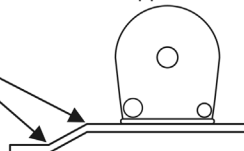

Figure 7
*Note: if there is no flat surface to mount the pulley due to curves, recesses or obstructions in the firewall, an optional pulley mounting bracket (Figure 7) is available from ROADMASTER.*